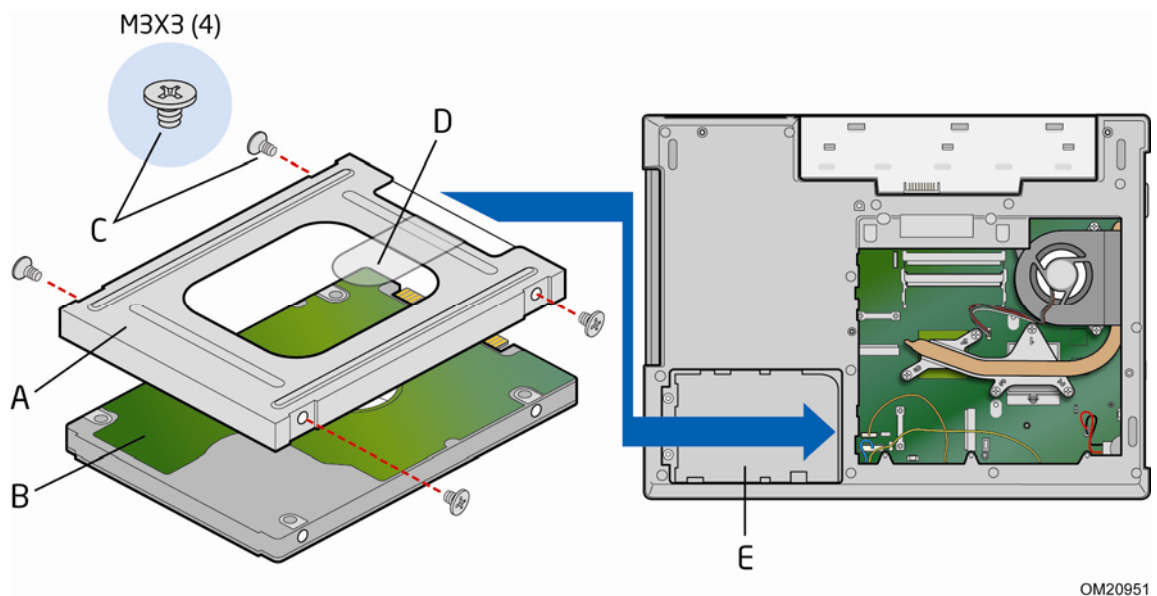

Figure 21. Installing a Hard Disk Drive
To install a hard disk drive in the chassis, see Figure 21 and follow these steps:
2. Attach the disk drive mounting bracket (Figure 21, A) to the hard disk drive (Figure 21, B) with four screws (Figure 21, C) as shown.
3. Insert the hard disk drive/bracket assembly into the disk drive bay (Figure 21, E) and engage the Mobile Board connector. You can use the pull tab (Figure 21, D) to facilitate installation.